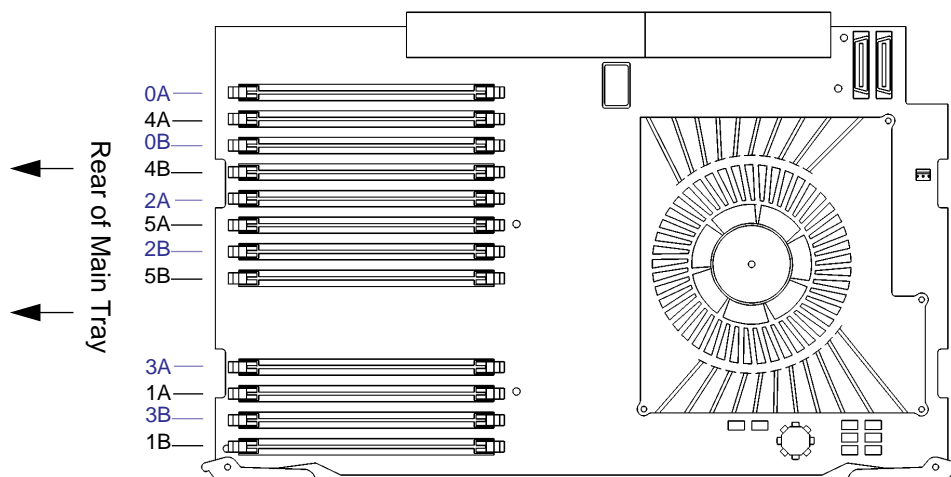

Figure 7
- 1 Locate the memory connectors on the C160/C180 CPU board, as shown in Figure 7.
Figure 7 shows the positions of the memory connectors and slot numbering on the C160/C180 CPU board.